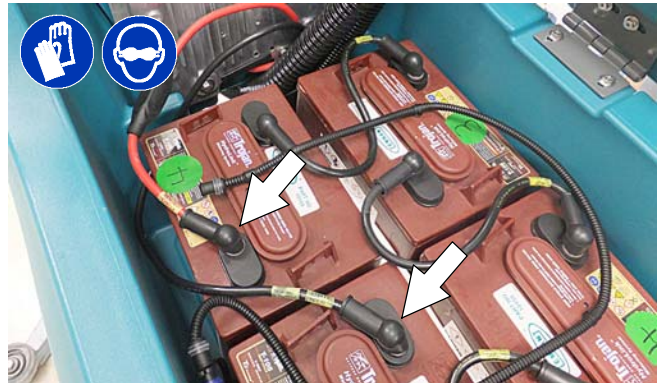

FIG. 123
1. Disconnect the battery cable connection at machine (Figure 123).